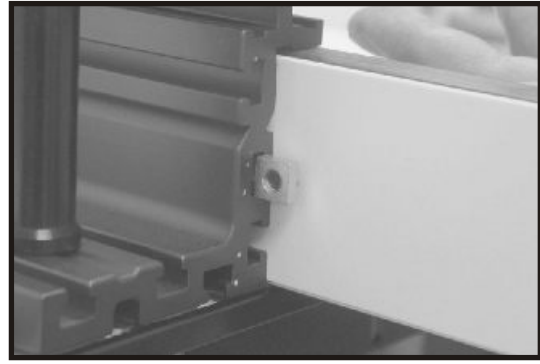

FIG. 17
20. With the shim mounted to the back side of the subfence and the square nuts threaded onto the three machine screws, line up each square nut and feed them one at a time into the T-slot on the inside back of the fence frame (Fig. 17). When all three nuts are in the T-slot slide the subfence into position and tighten the three machine screws with the ball driver to complete the installation of the shim.